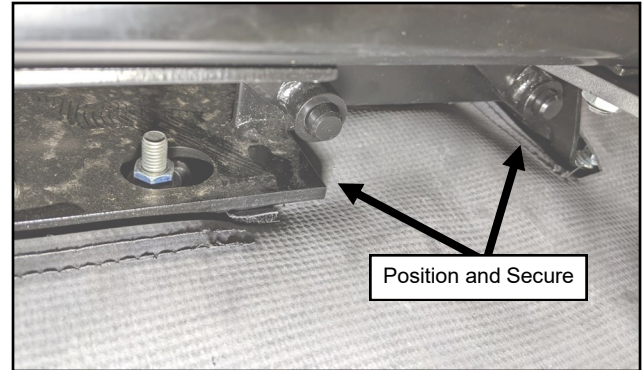

Fig. 19.7 (Secure Filler Under Seat)
**19.7** Position and secure the filler under the seat. See Figure 19.7.